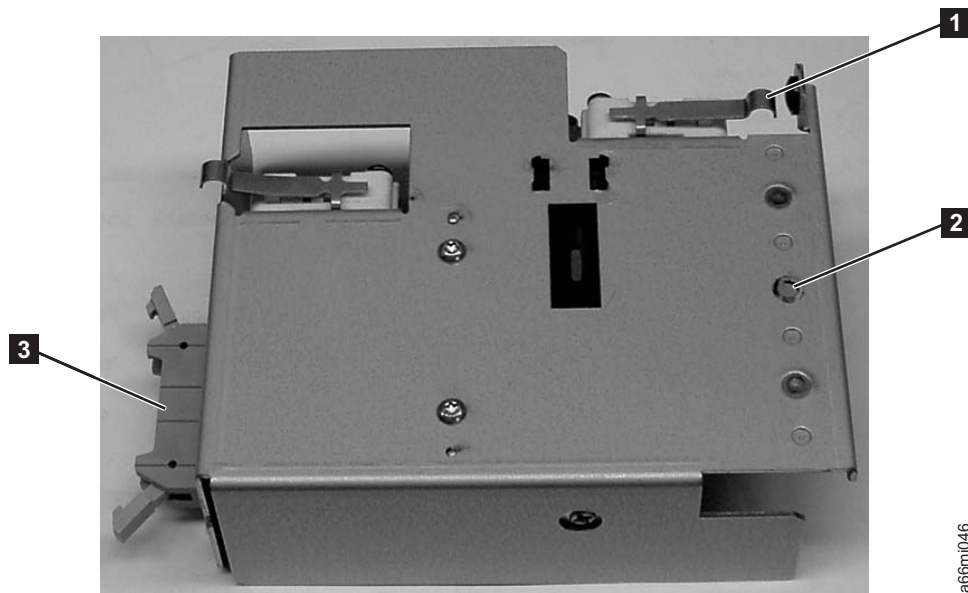

Figure 8-22. I/O Station Lock Assembly (top view)
4. Remove the mounting screw (**2** in Figure 8-22), and set it aside.
5. Disconnect the I/O Station cable (**3** in Figure 8-22 on page 8-25) from the lock assembly.
- c. Ensure the I/O Station switch actuator lever (**1** in Figure 8-22 on page 8-25) is not stuck under the enclosure sheet metal and operates without binding on the enclosure.